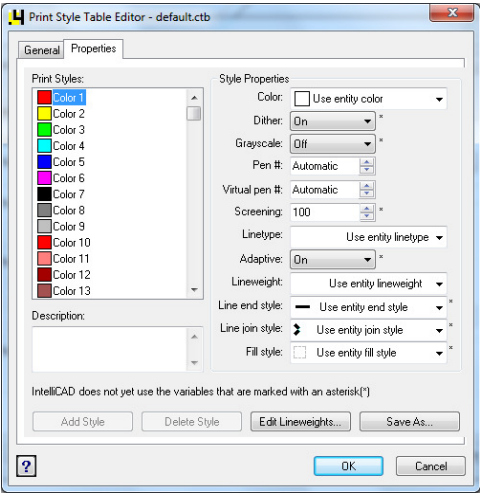

Fig. 334 – Print Style Table... dialog box
This tool is useful when it is necessary to make changes to the view in documentation to make it more legible and clear. When changes are completed, you can either accept them, cancel or simply reset drawing to the original form (Fig. 334). You will be brought back to the documentation. Note: if the introduced changes were saved, the view in documentation will be modified.
- in a newly opened dialog called **Print Style Table Editor – default.ctb** (Fig. 334), exactly in the **Print styles** section, click on the first **Color** position, press **<Shift>** and then press the last position (not releasing the **<Shift>** button);